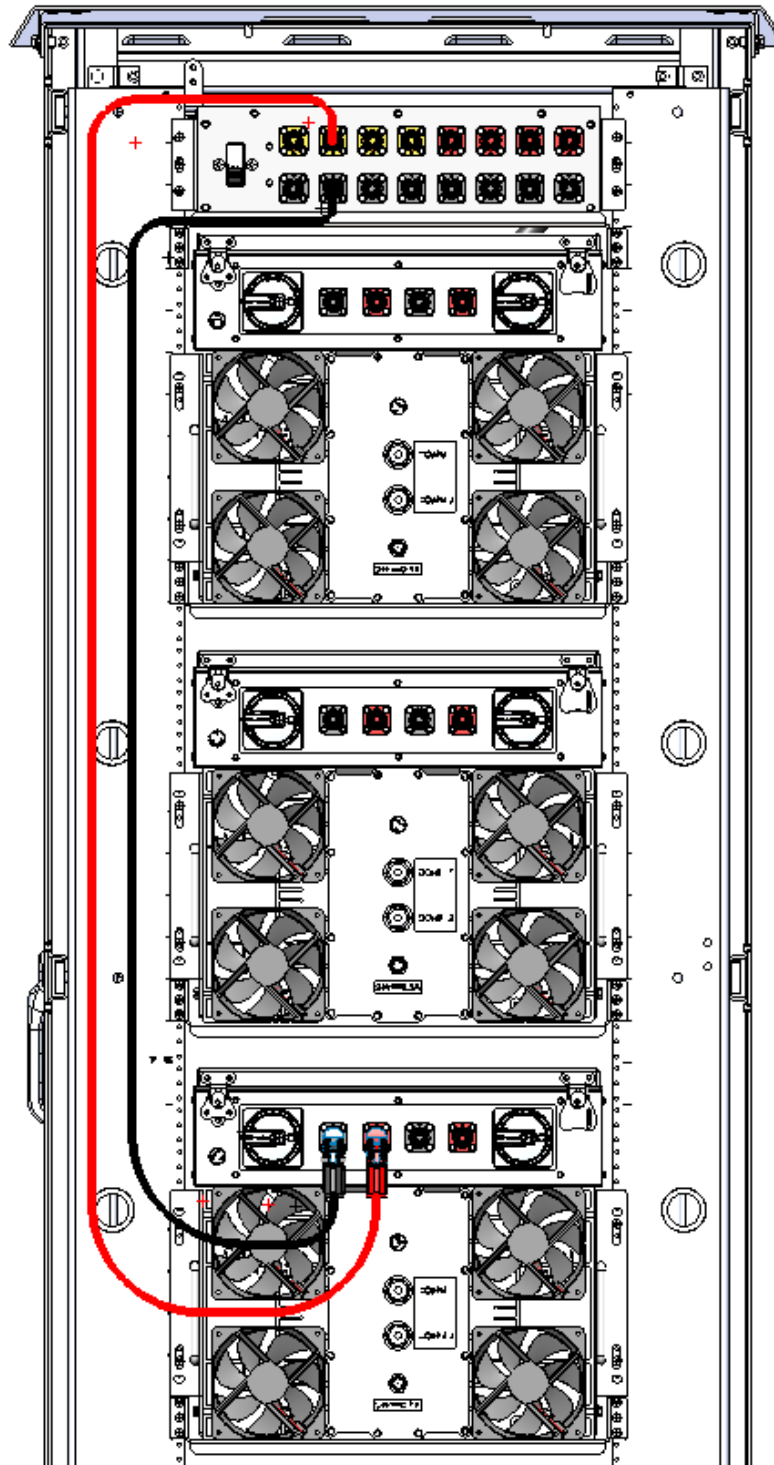

FIGURE 24: SURLOK CABLING ROUTED TO PRIMARY (INPUT) FEED #3
- (2) 6.5-foot SurLok Cables for SPOT #3 shown in Figure 24.